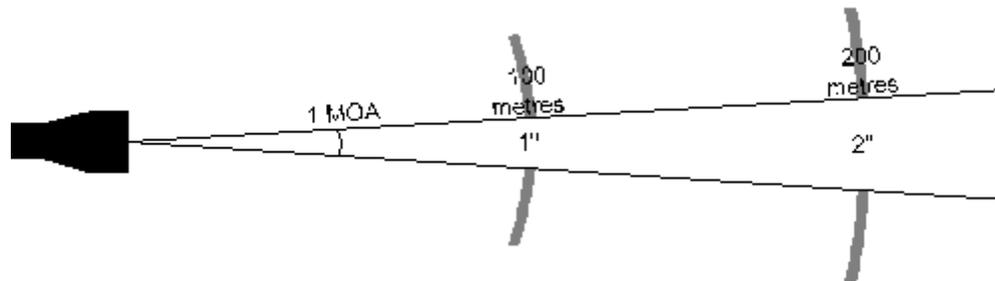

Figure 1
Modern riflescopes have windage / elevation controls that move the target image in relation to the graticule in order to allow you to make the bullet impact point coincide with the centre of the graticule. Each click of the windage / elevation control shifts the **point of impact (PI)** in the direction indicated by the arrow on the control by 1/4 **minute of arc (MOA)**. In a circle there are 360 degrees, each of which is divided into 60 minutes of arc, thus there are 21600 MOA in a circle. Using the formula $2\pi \times r$ to calculate the circumference of a circle, it can be determined that a circle with a radius of 100 metres has a circumference of 628.3 metres. Divide 628.3 by 21600 to determine the number of millimetres per MOA and you get 29mm, so for each four clicks of adjustment on the windage / elevation control, the PI will shift by 1 MOA which equals 29mm at 100m. Because the PI adjustment is measured in angles, the amount of movement on the target will increase proportionally as the distance to the target increases (see figure 1). In the following table, each click has been rounded down to 7mm for simplicity.
Before tightening the rings, be sure to set the correct eye relief for your scope (*see next section*) and align the scope so that the graticule is squarely aligned to the rifle (*see Figure 1*).